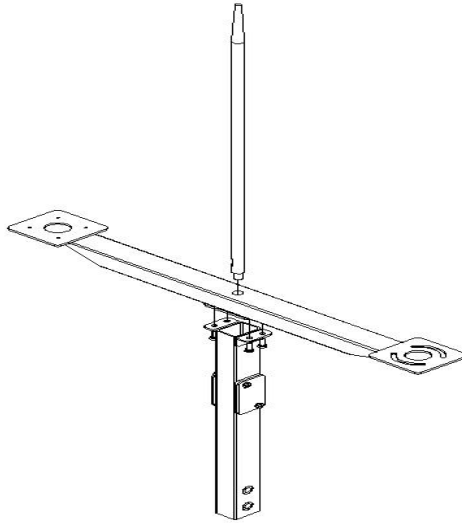

Fig 3-2 Connecting lightning rod and supporting arms
(2) Secure the lightning rod on the horizontal supporting arm and tighten with the 12mm open end wrench; Use M5X12 pan head screws to secure the horizontal and vertical supporting arms, as shown in Figure 3-2.